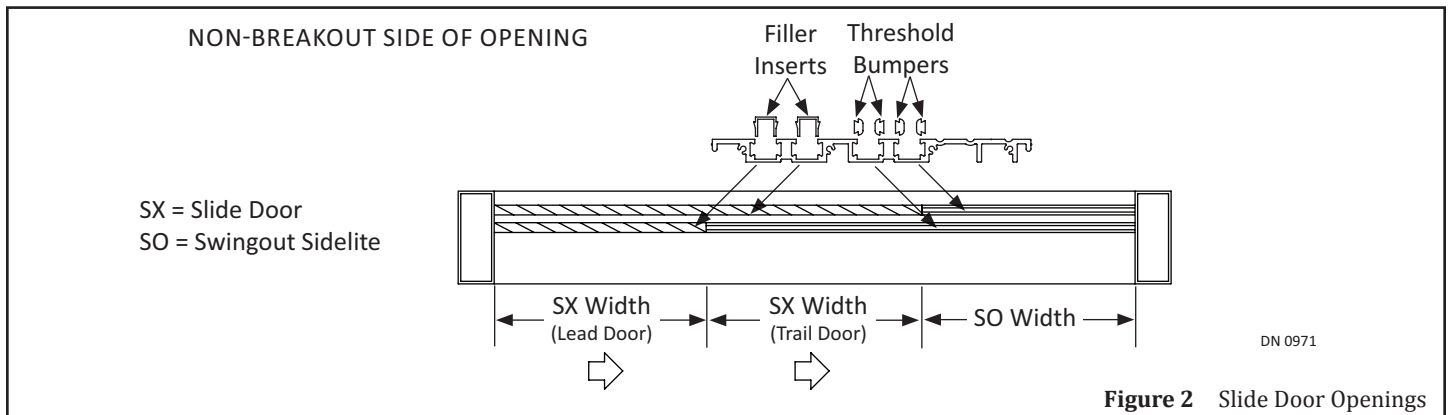

Figure 2 Slide Door Openings
3. Install Filler Inserts within areas that has a door opening. Please see Figure 2.